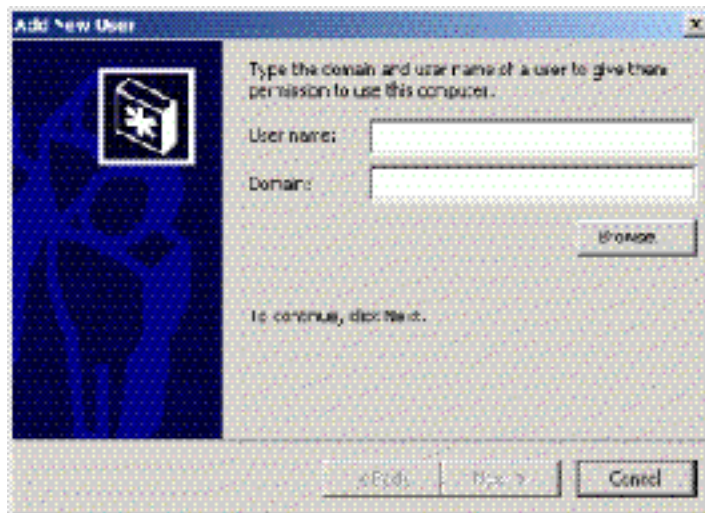

Figure 2-19 Add New User Wizard
1. Click *Add* at the *Users and Passwords* dialog box, . The first window of the *Add New User* wizard appears (Figure 2-19).